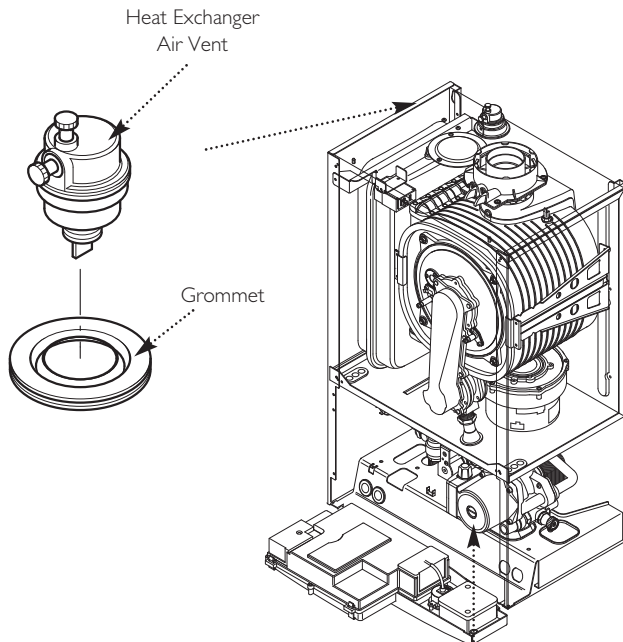

Fig. 86
14.13 Heat Exchanger Automatic Air Vent (Fig. 86)